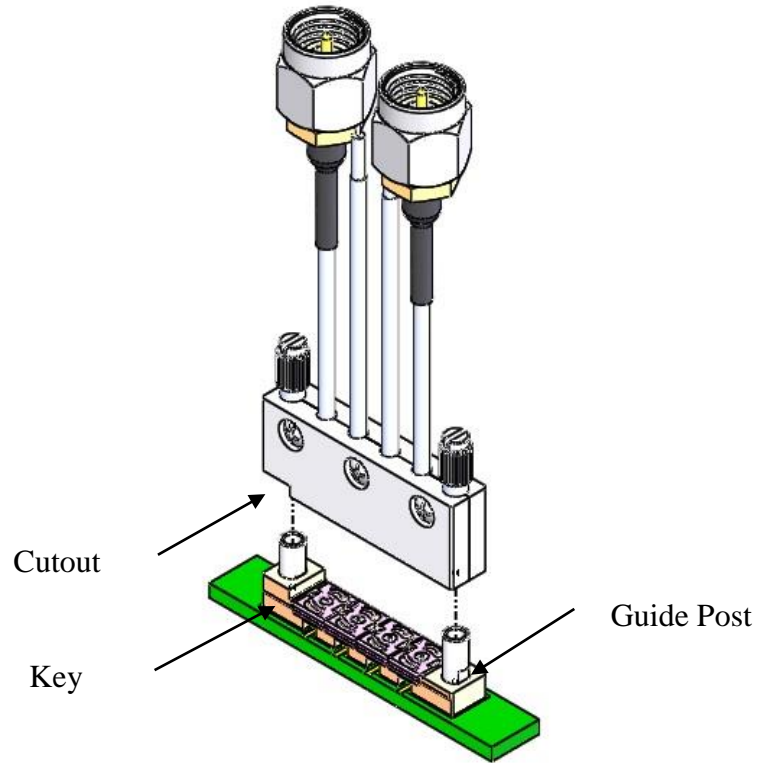

Figure 5: Connector/ Cable assembly, 4 position, Alignment
4.8. Ensure the orientation of the cable assembly and the connector prior sliding cable assembly over the guide post (Figure 5).